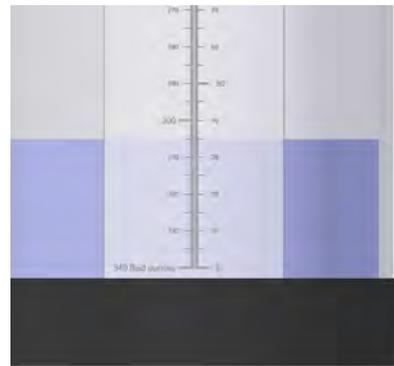

Figure 2
10. As soon as one minute is up, position valve on top of mix tank to “MIX TANK”. Read the level on the side of the calibration tube (see Figure 2, below). This number should equal the number of ounces needed to flow through the pump in one minute. If the ounces needed per minute have not been met, re-adjust the pump speed up or down accordingly and repeat steps 9 & 10 until the liquid flow rate has been matched.